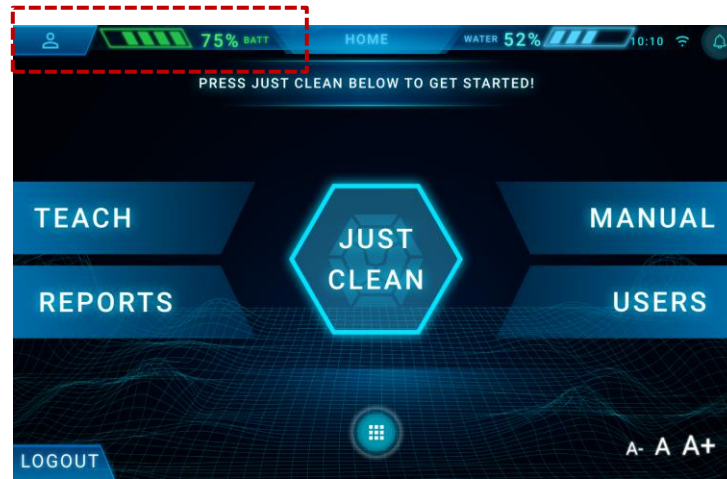

Fig. 1
1. Refer to the Home page on the screen for the robot to check the battery level (Fig. 1)